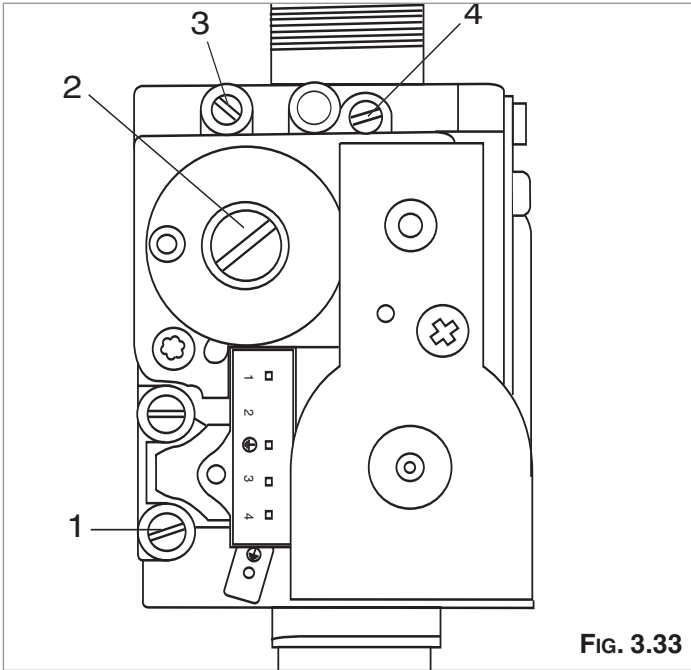

FIG. 3.33
1. Loosen screw "1" (Fig. 3.33) and connect the pressure gauge connection pipe into the test point.
2. Set the boiler to minimum power via the test function (see paragraph 3.6.1) or by pressing the **RESET** button for 5 seconds and then pressing the **-** button on the control panel, ensure the dashes are at the bottom of the display (see Fig. 3.30). Ensure the CO₂ value on the analyser corresponds with the value indicated in table 4D. If this is not the case, adjust screw "2" (Fig.3.33) with a screwdriver in small intervals, allowing the reading to become stable before adjusting further, until you obtain the correct CO₂ reading. Allow the reading to become stable for at least 4 minutes.
3. When the check is over, replace the cap on screw "2" (Fig. 3.33).
1. With the combustion analyser already connected to the analysis point, set the boiler to maximum power via the test function (see paragraph 3.6.1) or by pressing the **RESET** button for 5 seconds and then the programming keys **+** and **-** ensuring the dashes at the top of the display (see Fig. 3.30). Ensure the CO₂ value on the analyser corresponds with the value indicated in table 4D. If this is not the case, adjust screw "4" with a screwdriver in small intervals allowing the analyser reading to stabilise before adjusting further (Fig. 3.33), until you obtain the correct CO₂ reading. Allow the reading to become stable for at least 4 minutes.